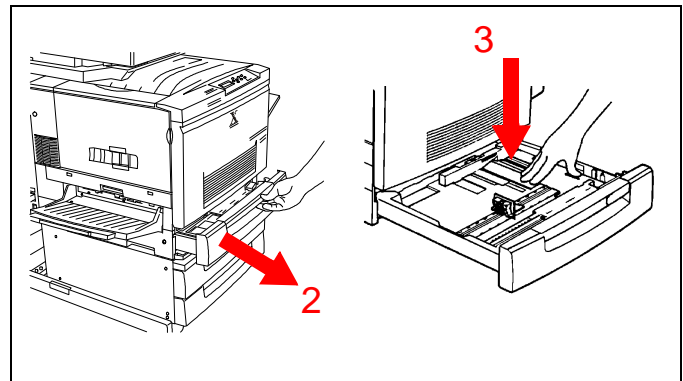

Figure 1
2. See Figure 1. Open the tray by pulling it straight out.